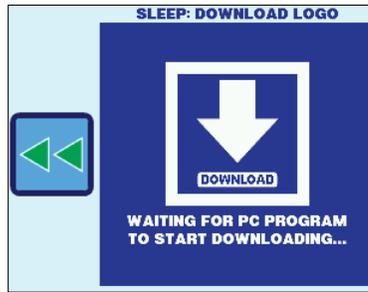

Figure 29- Sleep Custom Logo Download Screen
**Download Custom Logo** - This feature button is normally grayed out unless the EasyTouch detects that the special programming cable is plugged into its 8-pin jack. Figure 29 shows the Down Custom Logo screen as it normally appears before a download is initiated.